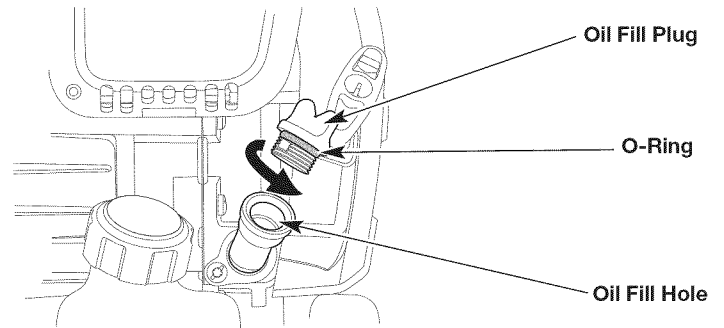

Fig. 8
4. Unscrew the oil fill plug (Fig. 8).
6. Pour the entire bottle into the oil fill hole (Fig. 8). **DO NOT** overfill. Refer to *Checking the Oil Level*.
NOTE: Make sure the O-ring is in place on the oil fill plug (Fig. 8).